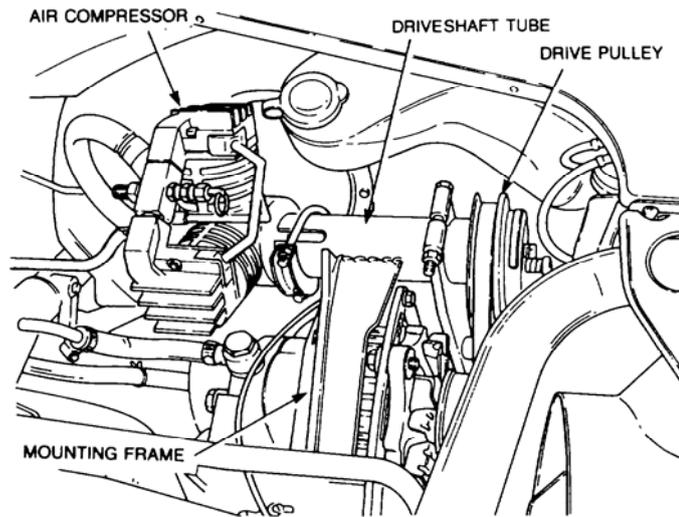

Figure 2 Air Compressor Removal
- c. Slacken the pinch bolt (refer Figure 2) securing the idler pulley lever to the drive shaft tube.